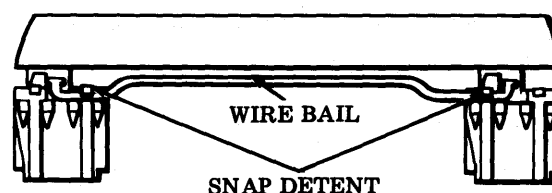

Fig. 4—Wire Bail Removal
- (d) Remove the wire bail from the left and right spacebar guides (snaps in and out) (Fig. 4).